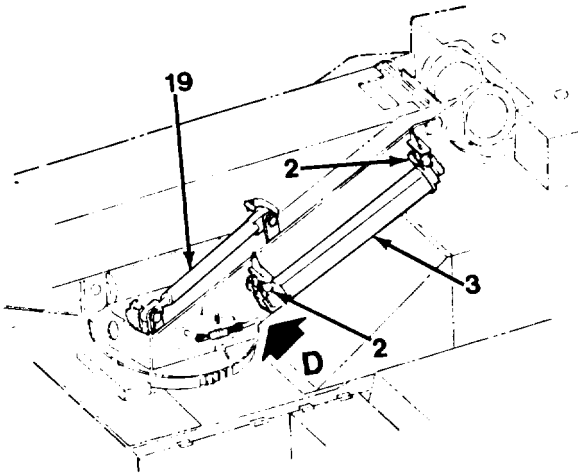

Figure 5-26 Storage Location D
e. Remove posts (19), (20), (21) and (22) and six pins (23) from storage locations A, D and E (Figures 5-26, 5-27 and 5-28). Two pins (2) and tube (24) are located in tool box. Connect one end of posts (19) and (20) to ends of post (21) with two pins (23). Swing remaining ends of posts (19) and (20) up and attach to ears on side of